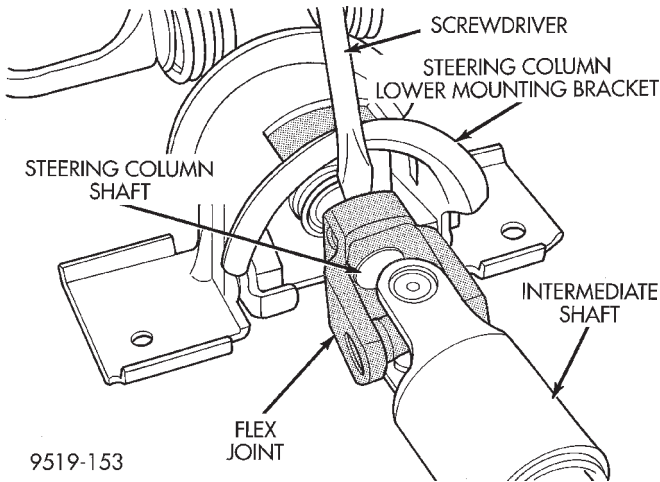

Fig. 21 Removing Intermediate Shaft
(3) While holding hex on end threaded rod, tighten the nut on threaded rod of Remover/Installer. This will pull the roll pin out of the intermediate shaft's flex joint.
(4) Using a screwdriver inserted between the shaft's flex joint and the steering column lower mounting bracket (Fig. 21), pry intermediate shaft off steering column shaft.